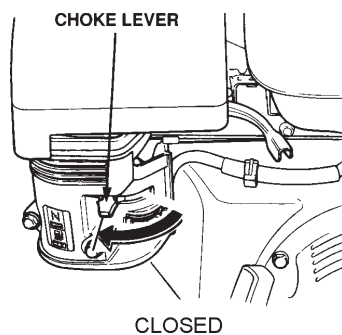

Figure 7. Choke Lever (Closed)
- If the engine has started, slowly return the choke lever (Figure 7) to the **CLOSED** position. If the engine has not started repeat steps 1 through 6.